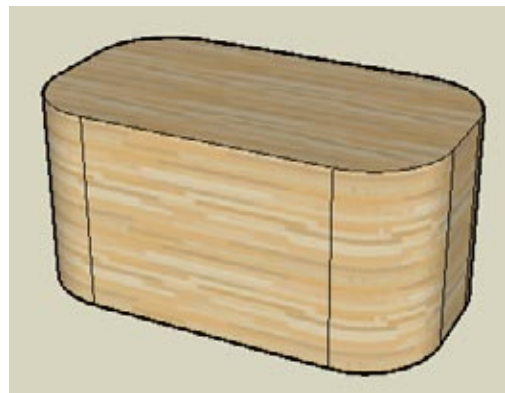

Figure 4-3
But if you are starting with a box with rounded vertical corners like the box in Figure 4-3, you have no face on which to draw the Follow Me face.
In this recipe's first example, you'll start with the model shown in Figure 4-3 and use Follow Me to make a jewelry box with a rounded top. Adding a notch in the box will give you a temporary face for the Follow Me face; you can fill in the notch after the top is rounded. The second example starts with a round object and ends with a round casserole dish with a rounded lid. You'll get there by creating a temporary face from one of the object's straight segments.
1. Start with a box with rounded corners like the box in Figure 4-3. You can create your model from scratch, or download my Jewelry Box model from the 3D Warehouse.